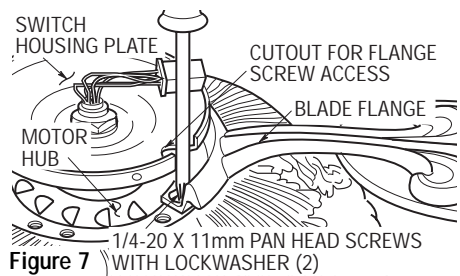

Figure 7
- 10. Align two of the threaded holes in the motor with the two cutouts in the switch housing plate (Figure 7). Position the blade flange on the motor hub so that the screws in the blade flange align with the two threaded holes in the motor hub. Tighten the two screws securely. Repeat this procedure for the remaining four blade assemblies.